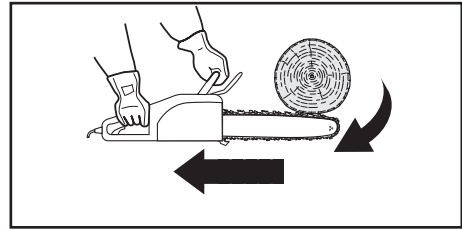

Fig. 25
2. Pinching the saw chain (8) along the top of the guide bar (9) may push the guide bar rapidly back toward the operator (Fig. 25).